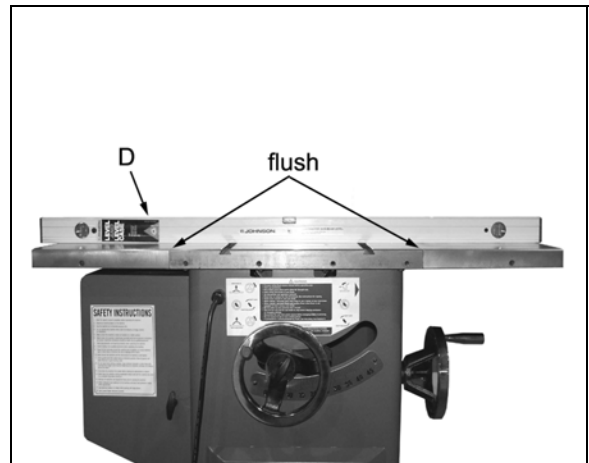

Figure 2
3. Using a straight edge (D, Figure. 2), align extension wing to saw table and tighten hex cap bolts. Repeat for opposite wing.